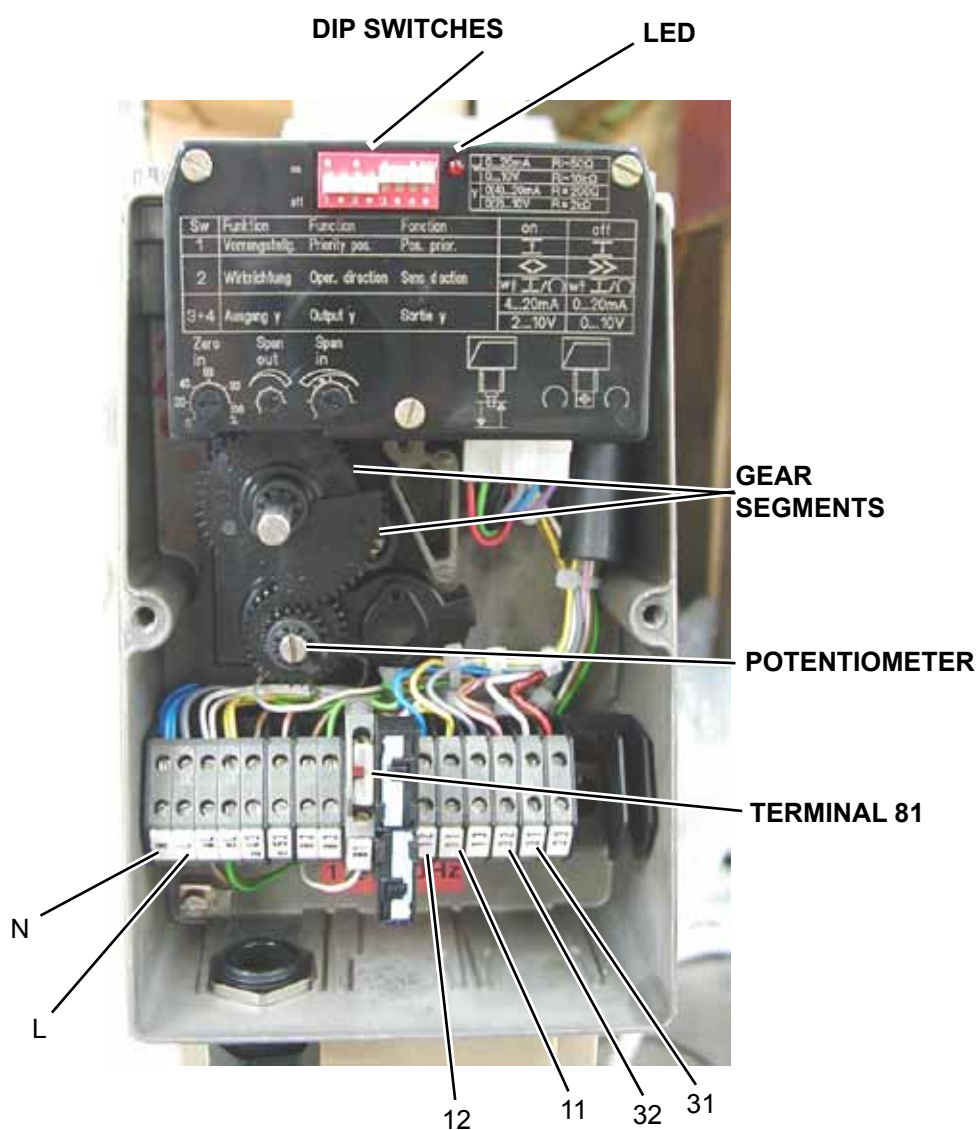

FIGURE 1 - ACTUATOR WITH COVER REMOVED
First make sure the valve is configured to receive the control panel's 4 to 20mA control signal. There are four DIP switches (see Figure 1 page 2) under the actuator's control cover (front of actuator, top center). Remove this cover and make sure DIP switches one and two are in the OFF, or DOWN position. DIP switches three and four must be in the ON, or UP position.
1. Hook up electrical circuitry as follows (refer to Figure 1):